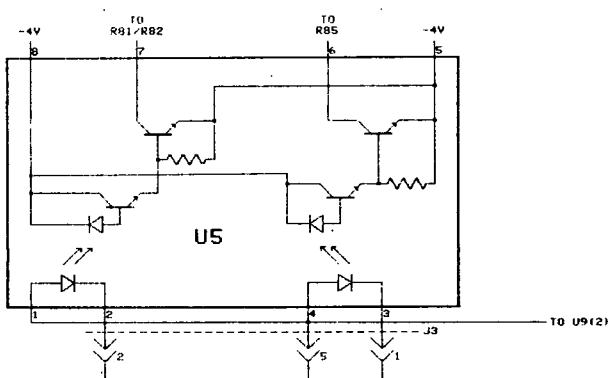

Figure C-6. Schematic 1 Changes (Change No. 14)
**Schematic 1 Changes.** Change the U5 opto isolator as shown in Figure C-6.